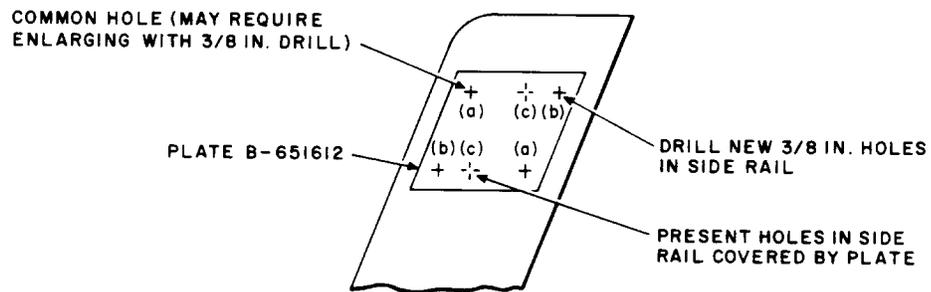

Fig. 8—Modification of Side Rails of KS-5049-01 Rolling Ladder for Top-Step Replacement
- (1) Remove the two screws from each side rail, and loosen the adjacent tie rod sufficiently to release the step.
- (2) Using the R-2192 rubber mallet, tap alternately at the end and the center of the step until it is driven free.
- (3) Insert the new step evenly into the side-rail groove and, with the rubber mallet, drive it into place. If the new step is too thick for the side rail grooves, use the sanding block to taper the **top edge** of the step ends so the load-bearing **bottom edge** remains squared. Care shall be exercised not to round the edges during the sanding process.
- (4) Should the screw lead holes of the new step fail to center with those in the side rail, fill the lead holes with plastic wood and allow to dry thoroughly.
- (5) Insert new step, and drill new holes 1-3/4 inches deep using the 7/32-inch twist drill.
- (6) Insert the four screws and tighten firmly.
- (7) Remove burrs and sharp edges with the R-1051 file.
- (8) Tighten all tie rods that may have been loosened during step repair.
- (9) If the tie rods are secured with nuts, remove burrs by riveting the ends of the rod with the ball-peen hammer. Tie rods using Teenuts are self-locking and should not be riveted or staked.
- (10) When replacing a malleable iron top step of a KS-5049-01 rolling ladder, redrill the side rails as shown in Fig. 8 and mount the step assembly and plate as shown in Fig. 1.